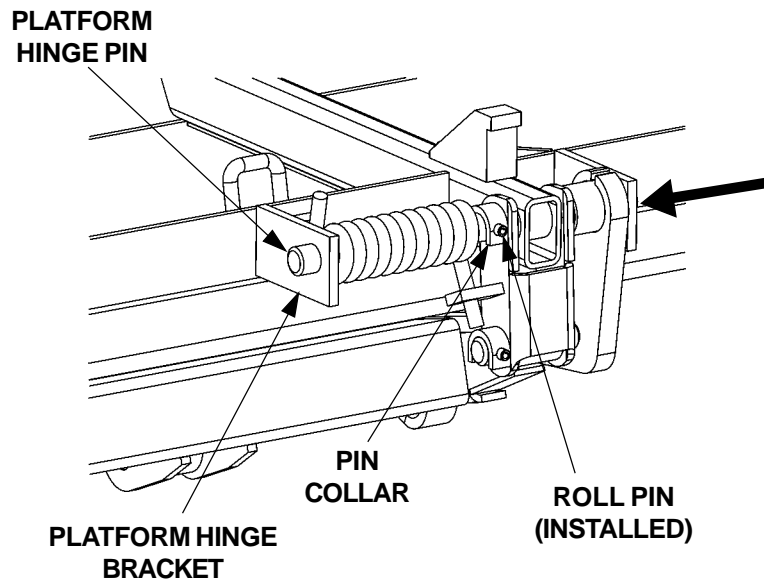

FIG. 12
5. Drive Platform Hinge Pin inboard to correct position through the Platform Hinge Bracket (**FIG. 12**). Line up the hole in the Platform Hinge Pin with the hole in the Pin Collar. Install the roll pin through the Pin Collar until roll pin protrudes equally from both sides of the collar (**FIG. 12**).